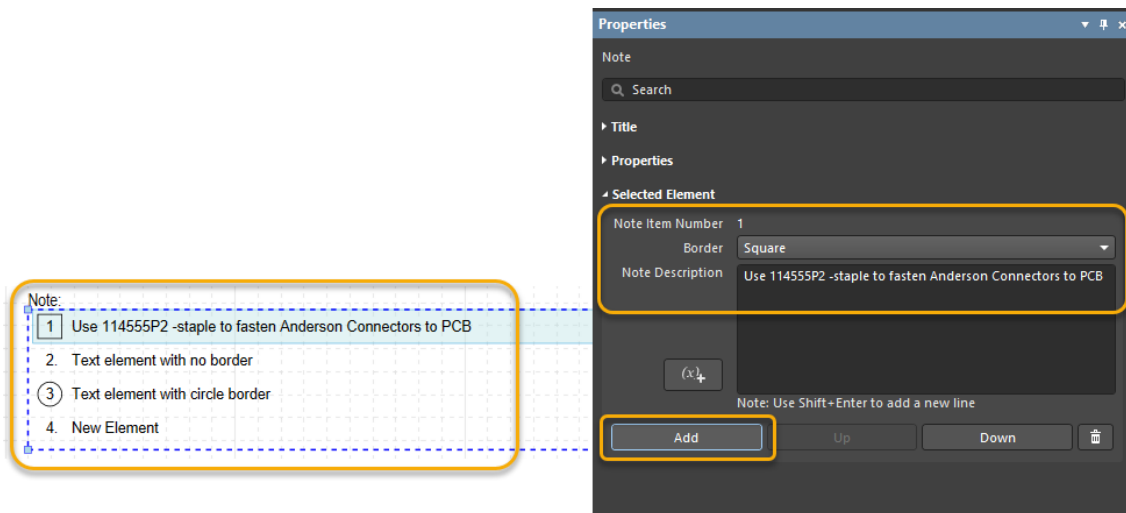

Figure 9. Note
21. Configure **Note 1**, as seen at Figure 9.